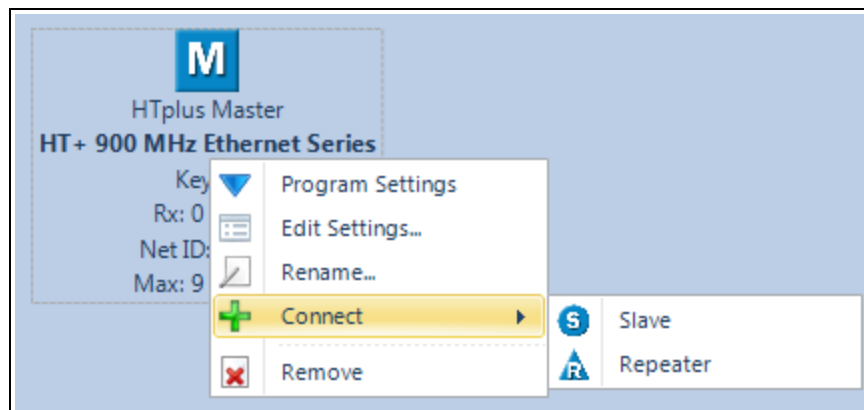

Figure 27: Connect > Select Modem Mode Options
4. Select the modem mode of the device to attach. Figure 27